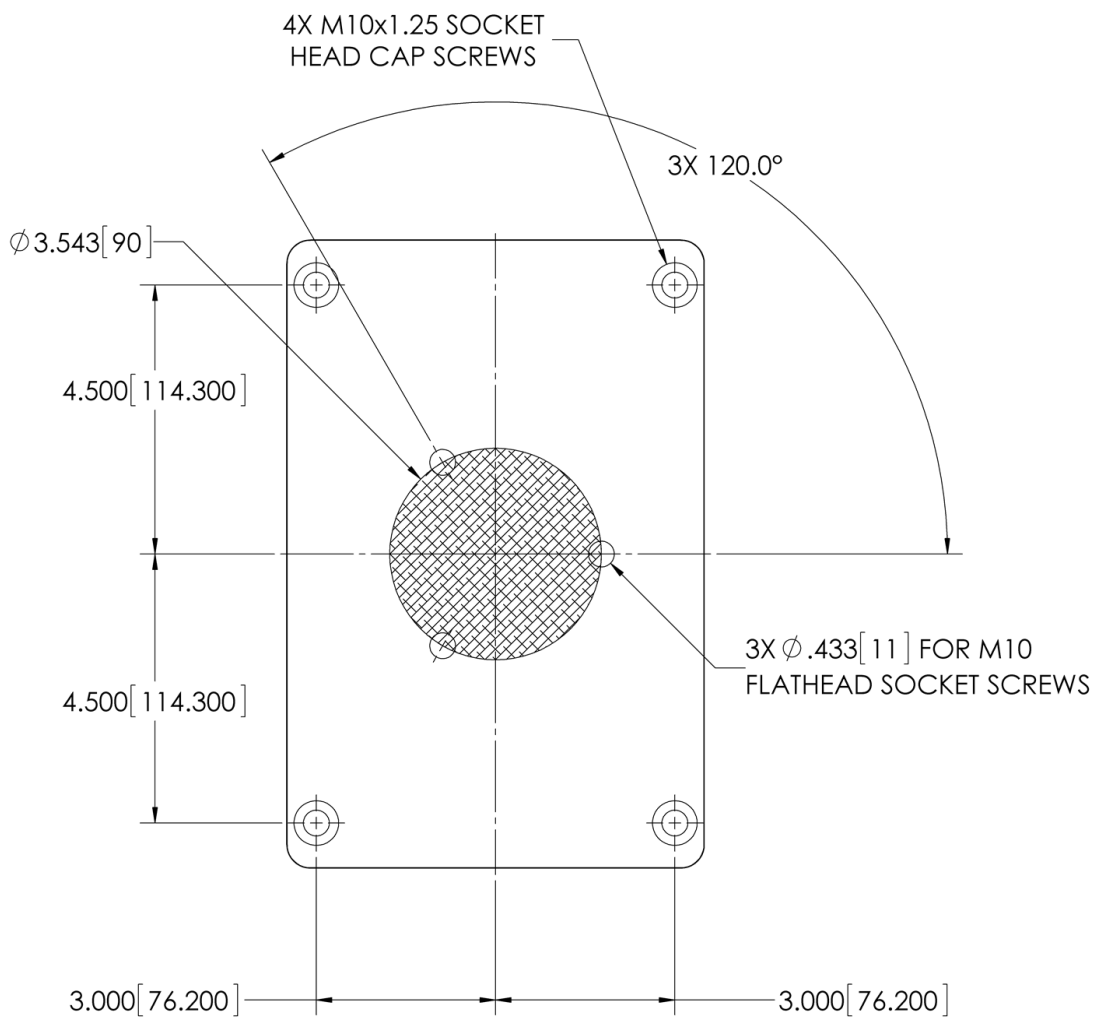

Figure 4: AFD90-2 Mounting Bracket
The AFD90-2 is supplied with a standard Mounting Bracket shown in Figure 4. A minimum of (3) three holes should be utilized to secure the Mounting Bracket to the robot mounting flange.
the AFD92 force device. Once the Mounting Bracket is removed, mounting holes may be placed anywhere within the crosshatched area shown in Figure 4. *PushCorp, Inc.* can supply engineering support to determine the mounting hole locations at no cost.